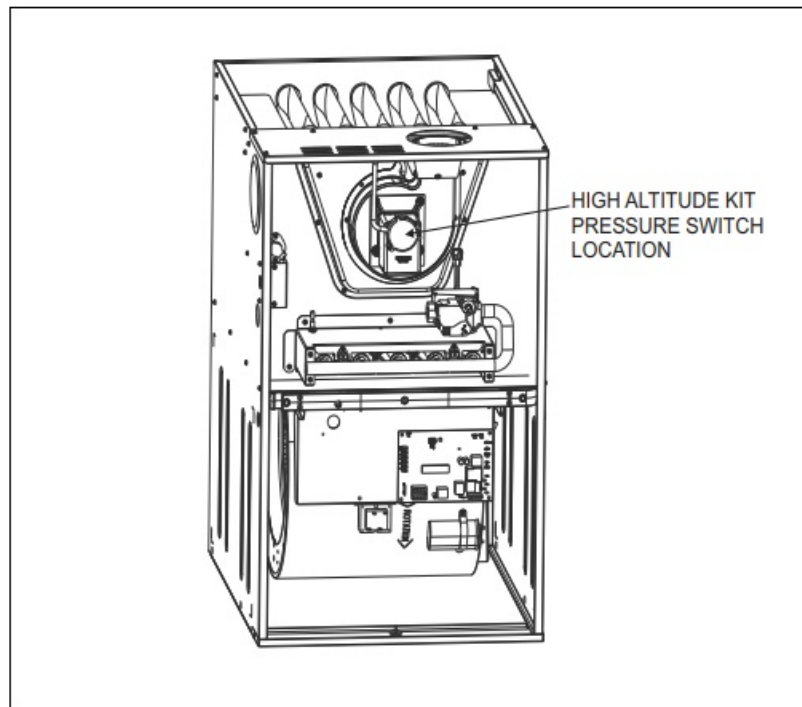
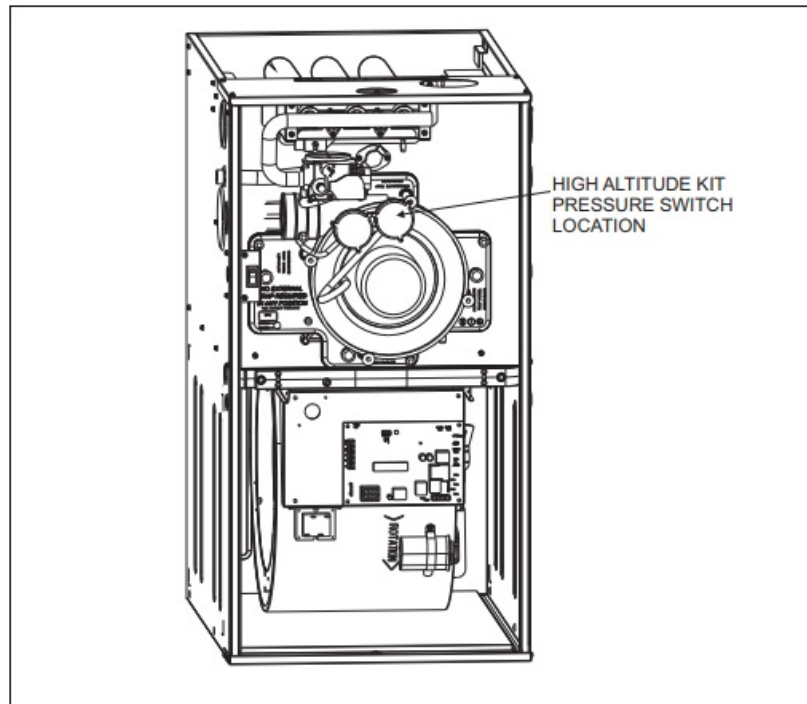

Figure 1: Pressure switch location - 80% models
Figure 2: Pressure switch location - 95% models
2. Replace the pressure switch as shown in Figure 1 or Figure 2.
1. Remove the burner access door. Replace the pressure switch in accordance with Figure 1 or Figure 2, and the